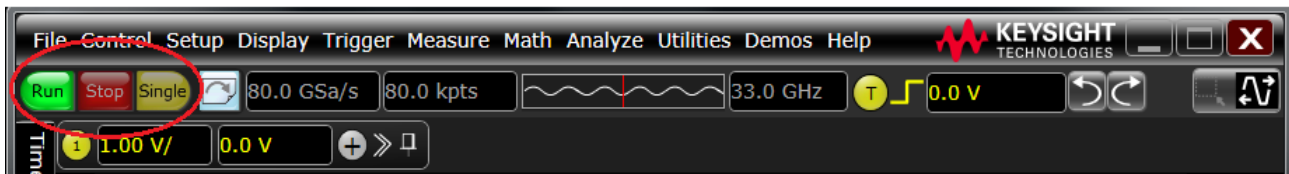

Figure 24 Manual Measurement Control buttons on the Infiniium Application
- During Automated measurements using the Keysight D9010ETHC Ethernet Compliance Test Application, the Test Application sends a **:DIGitize** command to the Oscilloscope, which invokes a special mode of data acquisition. This command (similar to repeatedly using the **SINGLE** button on the Oscilloscope as shown in Figure 24) initializes the selected channels or functions, then acquires them according to the current oscilloscope settings. When all waveforms are completely acquired, the oscilloscope is stopped. When averaging, it is necessary to know when the average count has been reached. The **:SINGLE** command (or pressing the **SINGLE** button) does not average. The Keysight D9010ETHC Ethernet Compliance Test Application triggers the **:DIGitize** command to acquire and perform the complete number of averages required for the measurements. This operation of averaging runs in the background and the Oscilloscope screen is not updated until all the averaged waveforms are acquired.
- During Manual measurements using the Keysight Infiniium Application, when you click the **Run** button on the Oscilloscope, as shown in Figure 24, you can visualize the entire process of averaging being performed on the Oscilloscope screen.